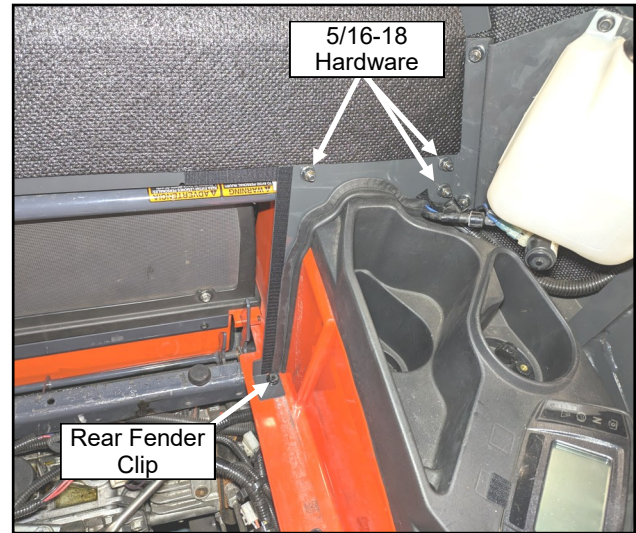

Fig. 10.1 (Install Left Fender Filler)
10.1 See fig. 10.1. Raise the seat and remove the rear fender clip on the left side. Save for reuse. Install the left fender filler panel by working and compressing the rubber seal into place. Loosely secure the top with the supplied hardware, with the bolts on the outside and nuts on the inside. Push the bottom of the filler into place and secure with the fender clip removed earlier. Ensure the rubber seal is in place and tighten hardware.